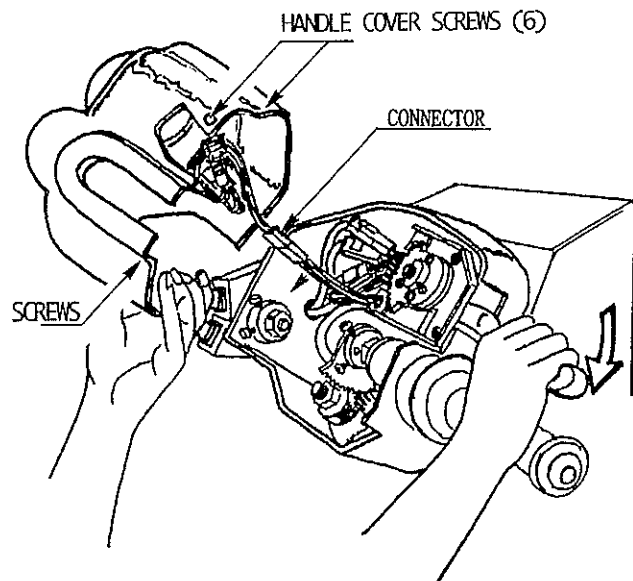

FIGURE 34: HANDLE COVER ACCESS
If the Throttle or Brake Ranges in the Control Range (“Volume”) Adjustment menu cannot be set within the appropriate range of values, an adjustment of the throttle or brake’s installation position is needed. If the throttle or brake cannot be adjusted appropriately, they need to be replaced. See Figures 34 and 35 for the location and fit of all parts.
2. Open the Handle Cover by removing the 6 phillips head screws that secure the Handle Cover to the Handle Base (see Figure 34).
4. Unplug the Molex connector that connects the Handle Cover wiring to the rest of the machine (see Figure 34) and set the Handle Cover aside.